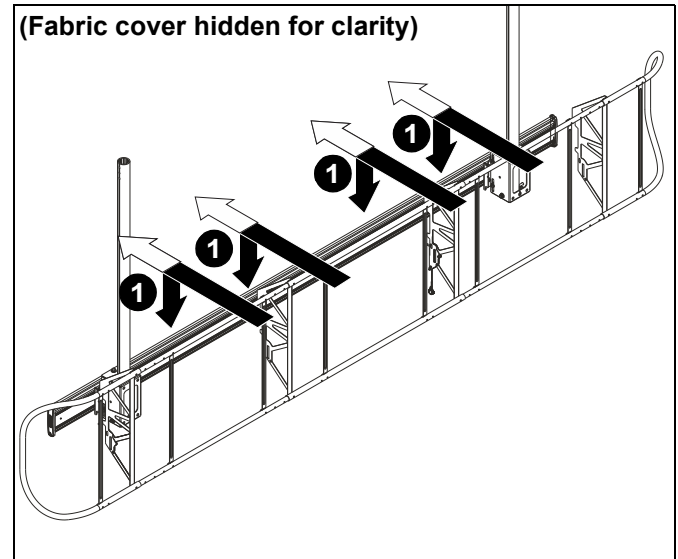

Figure 15
1. Lift assembled cover onto top edge of mounting rail. (See Figure 15)